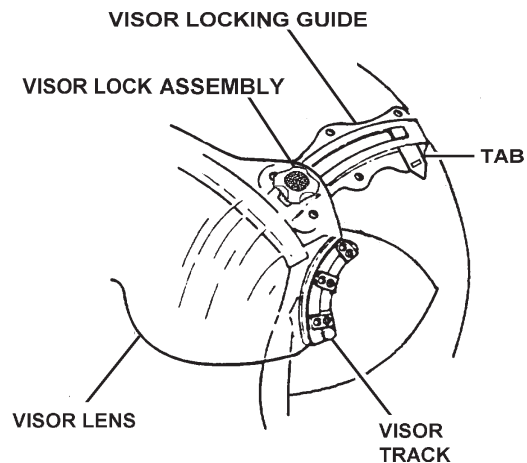

Figure 3-21. Visor Lock Assembly
- a. Referring to Figure 3-21, unsnap the tab on the visor locking guide, sliding the tab out as far as possible.